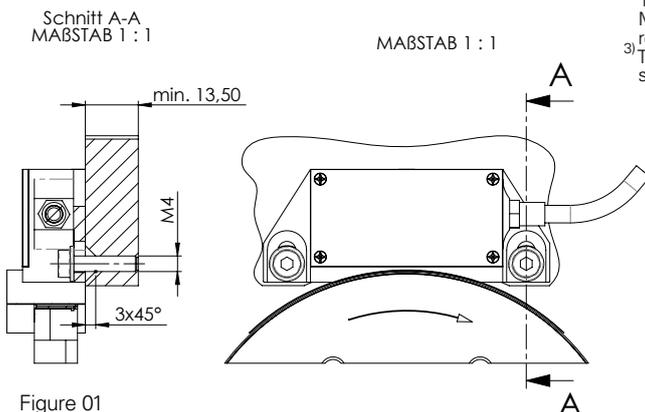

Figure 01
- 3) There must be anticipate a blind hole ø 4,3 x 3mm on the stator side at the mounting holes. See Figure.01